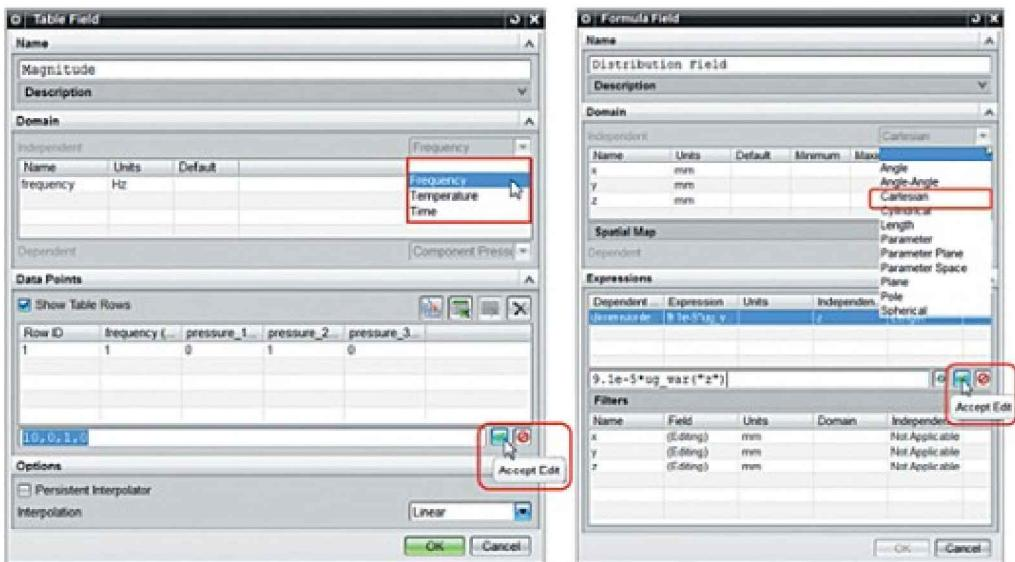

Figure 3.23. Specifying distribution using a formula
- Under *Define Field*, select *Table Constructor*. In the *Table Field* dialog box (Figure 3.23), specify the following:
- In the *Distribution field* list, select *Formula constructor*. In the **Formula Field** dialog box (Figure 3.23), specify the following: